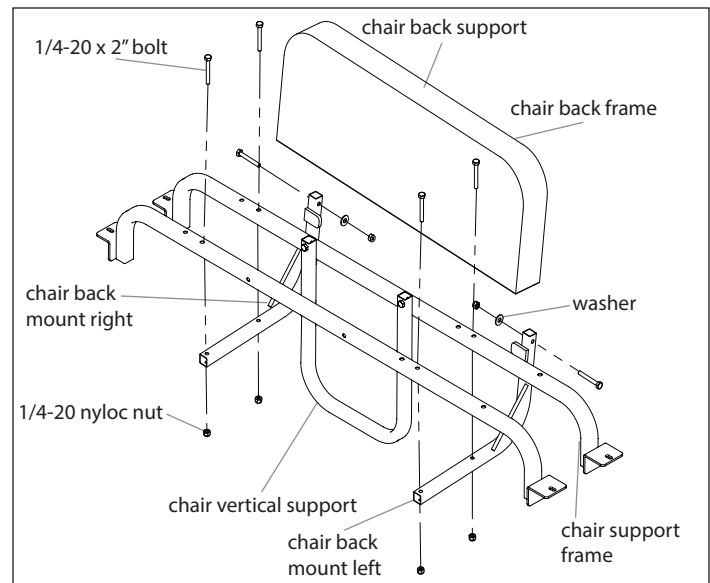

FIGURE 4
5. Attach chair back mount left (11312) to the chair support frame (11300) using (2) 1/4-20 x 2" bolts, (2) 1/4-20 nyloc nuts and (2) 1/4" washers. **SEE FIGURE 4**
Note: To determine the chair back mount left (11312) from the chair back mount right (11313) reference the welded rod brace in the corner of the chair back mounts. When assembled the rod brace will be to the outside of the seat frame. SEE FIGURE 4
6. Repeat step 5 on the opposite side using right chair back mount (11313). **SEE FIGURE 4**
7. Attach the chair back frame (11288) to both left and right chair back mounts (11312) and (11313) using (2) 1/4-20 x 2" bolts, (2) 1/4-20 nyloc nuts, (2) 1/4" washers and (2) 5/16" black nylon washers. **SEE FIGURE 4**